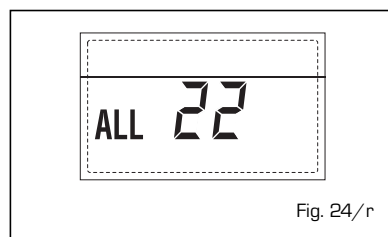

Fig. 24/r
**- ANOMALIA AVARIA Sonda IMPULSÃO SEGUNDA ZONA MISTURADA "ALL 23" (fig. 24/s)**